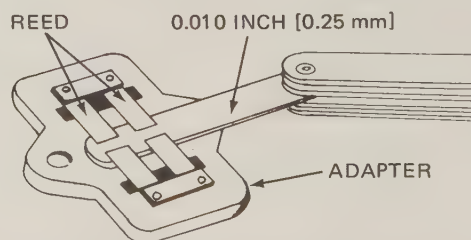

FIG. 31-46 Measure how far the reeds bend away from the adapter. (Tecumseh Products Company)
**○31-25 REED VALVES** Not all two-cycle engines use reed valves. Those that do will not run right with a defective reed valve. When overhauling an engine, always clean all dirt and oil from the reeds and the adapter or reed-valve plate. Do this carefully to avoid damaging reeds. If reeds are bent, damaged, or broken, replace the reed-valve assembly. Check also, on engines using a reed-valve stop, to make sure the stop is not bent or broken. Use a feeler gauge as shown in Fig. 31-46 to check how much the reeds bend away from the base plate, or adapter. One manufacturer specifies a maximum of 0.010 inch [0.25 mm]. If the reeds bend more than this, or are otherwise damaged, replace them.